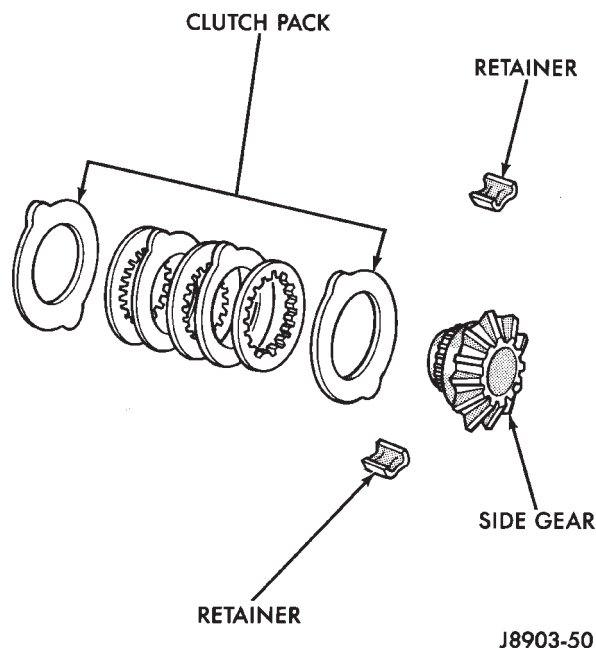
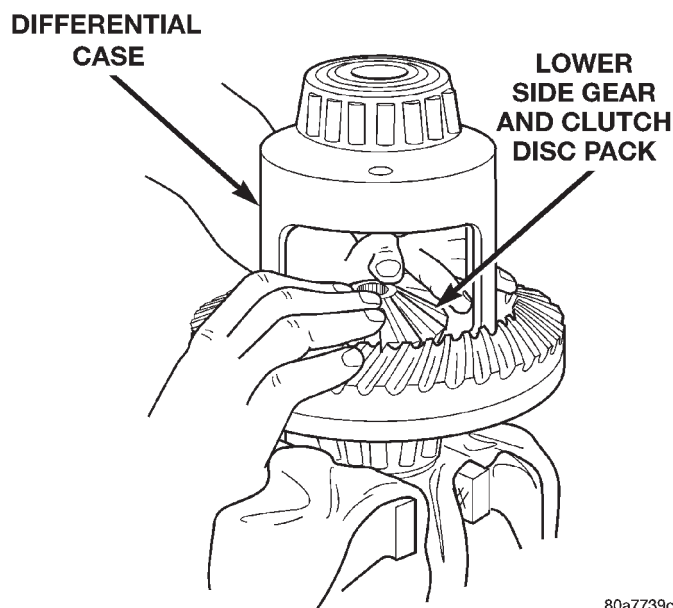
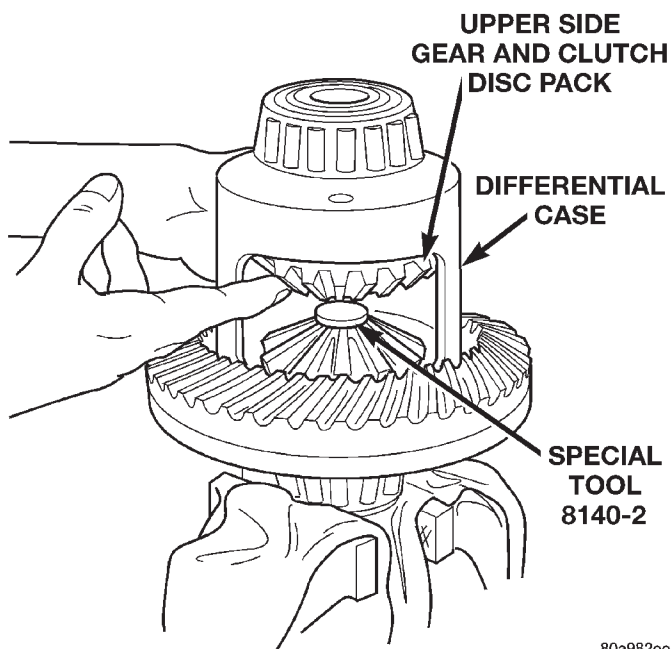

Fig. 48 Clutch Disc Pack
Fig. 49 Clutch Discs & Lower Side Gear Installation
Fig. 50 Upper Side Gear & Clutch Disc Pack Installation
(1) Remove pinion gear mate shaft lock screw (Fig. 49).
(2) Remove pinion gear mate shaft.
(3) Rotate the differential side gears and remove the pinion mate gears and thrust washers (Fig. 50).
(1) Assemble the clutch discs into packs and secure disc packs with retaining clips (Fig. 48).
(2) Position assembled clutch disc packs on the side gear hubs.
(3) Install clutch pack and side gear in the ring gear side of the differential case (Fig. 49). **Be sure clutch pack retaining clips remain in position and are seated in the case pockets.**
(4) Position the differential case on Side Gear Holding Tool 8138.
(5) Install lubricated Step Plate 8140-2 in lower side gear (Fig. 50).
(6) Install the upper side gear and clutch disc pack (Fig. 50).
(7) Hold assembly in position. Insert Threaded Adapter 8140-1 into top side gear.
(8) Insert Forcing Screw 6960-4.
(9) Tighten forcing screw tool to slightly compress clutch discs.
(10) Place pinion gears in position in side gears and verify that the pinion mate shaft holes are aligned.
(11) Rotate case with Turning Bar 6960-2 until the pinion mate shaft holes in pinion gears align with